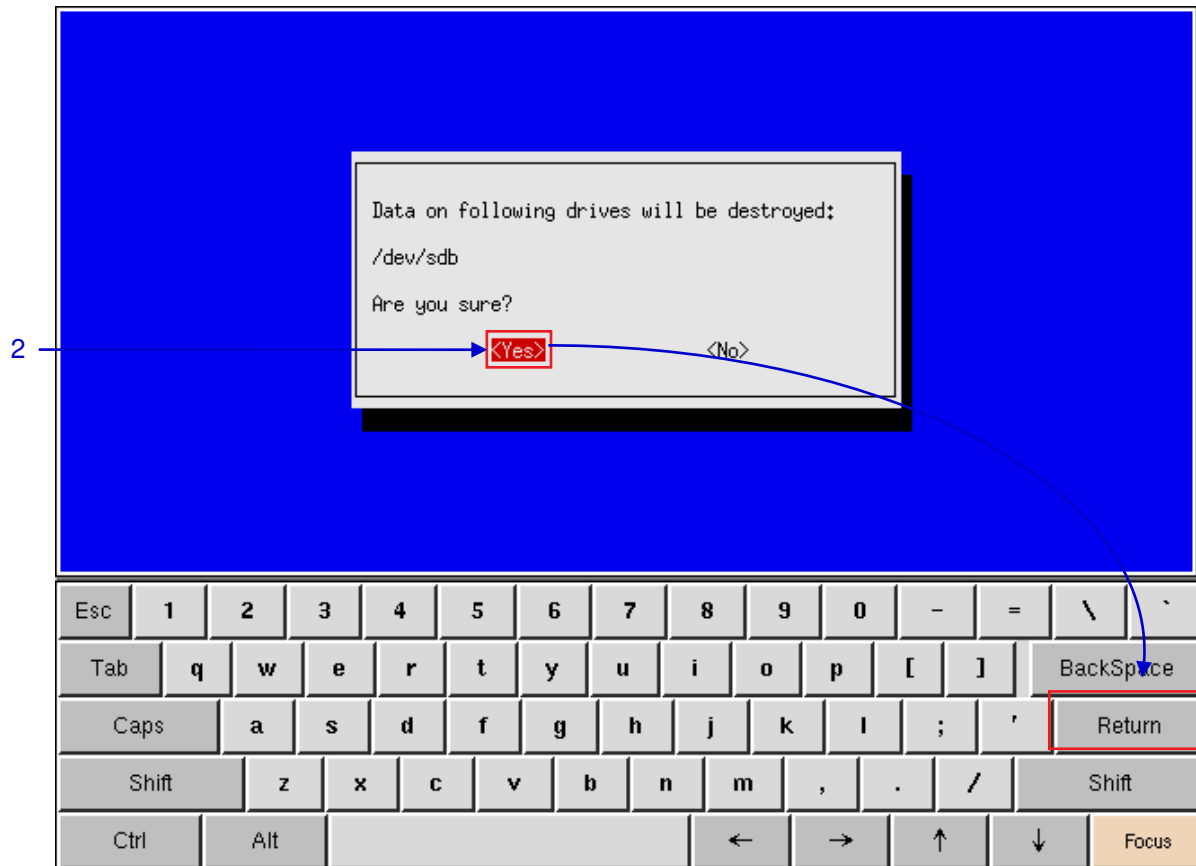

Figure 85 Confirming to destroy data on the drive
- 1 Select **Create new RAID array**. A new window appears as seen in **Figure 85**.